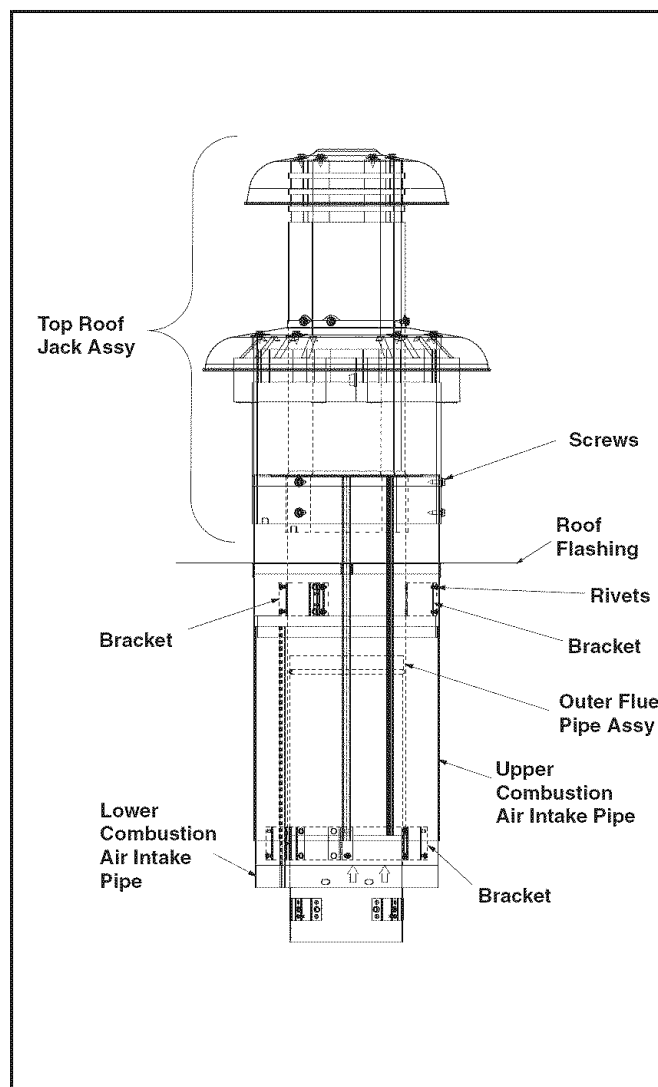

Figure 1. Typical Existing Roof Jack
C. To Remove Unnecessary Parts from the Old Roof Jack: (see Figure 1)